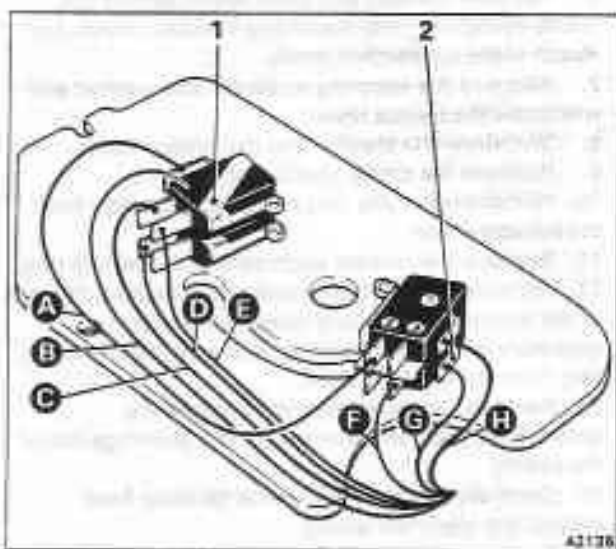

Fig. T6-3 Micro-switch connections
4. Locate the two right-hand micro-switches (see fig. T6-3).
27. Fit the electrical connections, starting with the longest connections on the contact base, progressing to the shorter wires and then finally the micro-switches, suppressor, and motor terminations (see figs. T6-3 and T6-4).